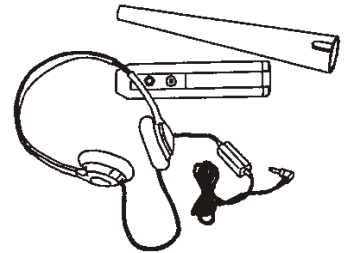

Fig. 14
1. With the KLI9210 still connected to the vehicle and the Control Valve turned to the Test position, activate the Ultrasonic Leak Detector and put on the Headset. (fig. 14)